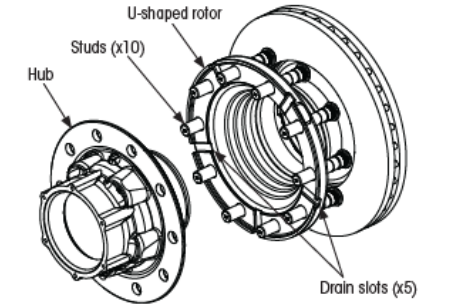
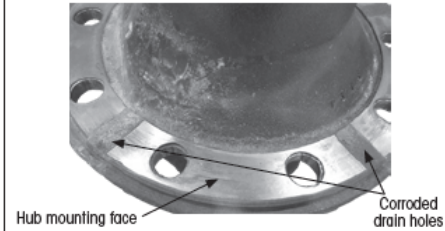
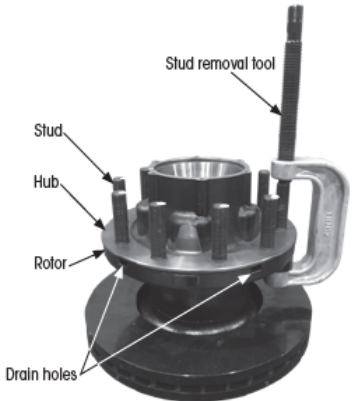
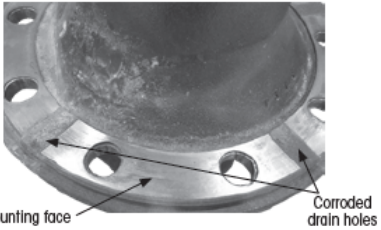

Figure 8: Hendrickson stud mounted hub & U-shaped rotor assembly
Figure 12: Drain hole corrosion on a used hub
Figure 10: Pressing out old studs
Figure 12: Drain hole corrosion on a used hub
This rotor to hub assembly is clamped together using studs which are press fit into the U-shaped rotor and hub (Figure 8 and Figure 11). These procedures apply to complete disassembly and reassembly when removed from the spindle.
**NOTICE** If installing a used hub onto a new rotor, corrosion may exist on the used hub pilots and where the drain holes were located (Figure 8, Figure 10 and Figure 12). This corrosion needs to be thoroughly cleaned off with a wire brush or emery cloth before assembling the hub and rotor. It is also recommended to align the hub and rotor such that the drain slots on the rotor mounting face are located in the same position to the hub mounting face as in the original assembly (Figure 10).
3. Using a hydraulic press or stud removal tool (Figure 10), press out each stud. Once all the studs have been removed, the hub and rotor can be separated.